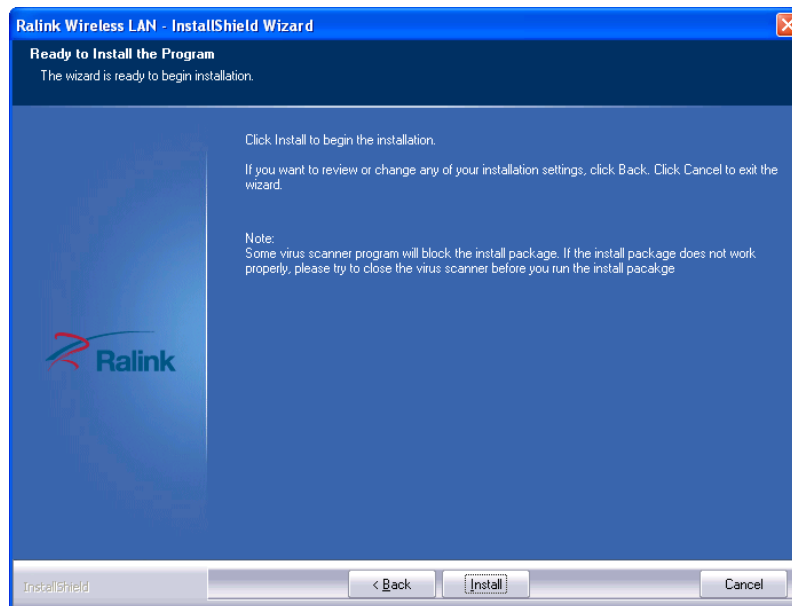

Figure 8-34: Ready to Install the Program
Step 9: The **Ready to Install the Program** screen in **Figure 8-34** appears.